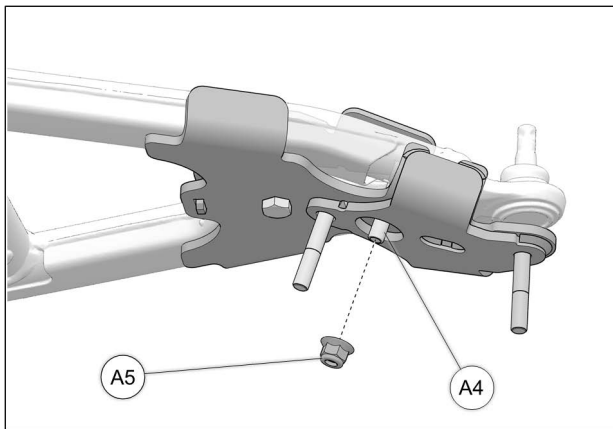

Fig. 16
8. Tighten M10x60mm bolt (A4) with provided M10 nut (A5), to 50 Nm [37 lb•ft] of torque. See Fig. 16